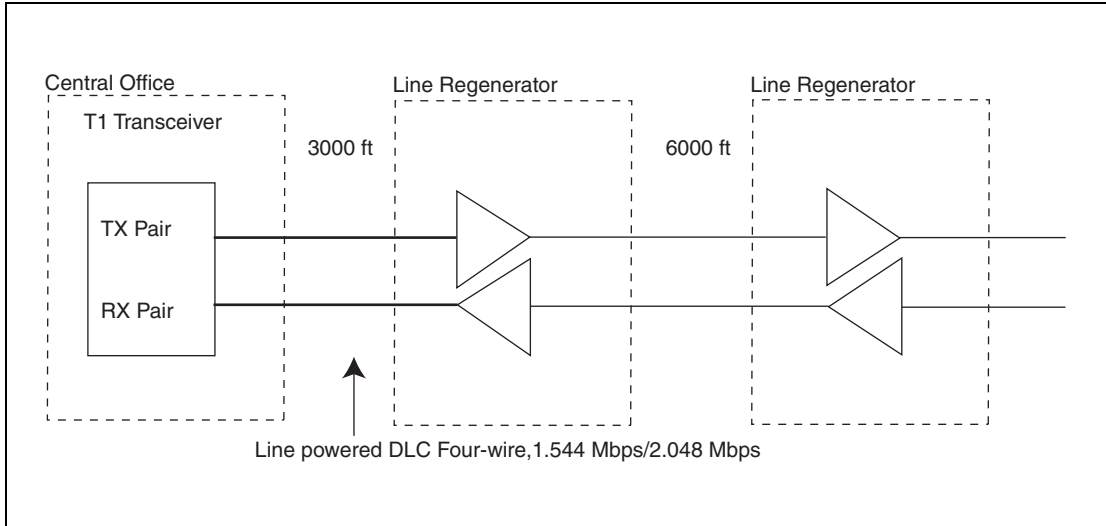

Figure 3.16 T1/E1 Overview
T1/E1 networks offer data rates up to 1.544 Mbps (2.058 for E1) on four-wire systems. Signal levels on the transmit (TX) pair are typically between 2.4 V and 3.6 V while the receive (RX) pair could go as high as 12 V. Loop powering is typically ± 130 V at 60 mA, although some systems can go as high as 150 V. (Figure 3.16)